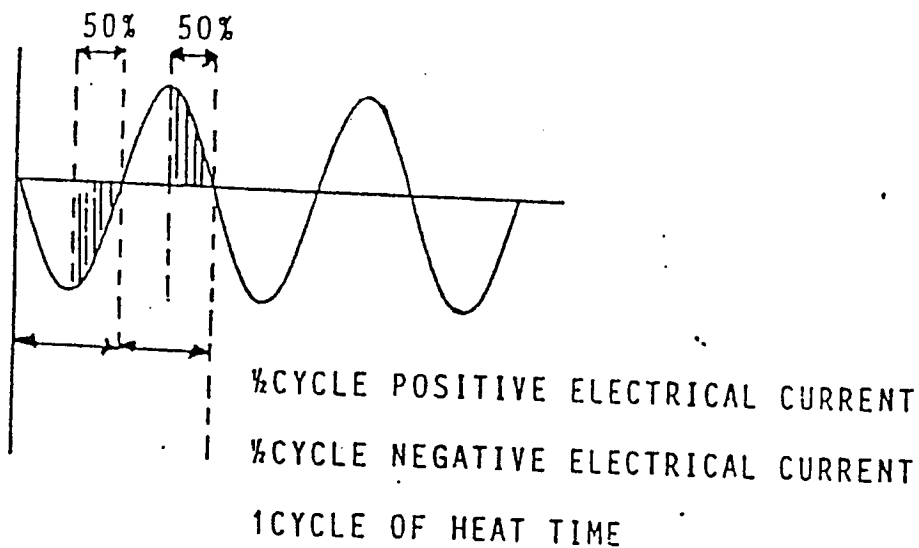

FIG. 2
- ◆ A program of 01 HEAT TIME at a heat magnitude of 50% will cause the welder controller to pass to the welding transformer one positive and one negative half cycle of electrical current, both with a magnitude of 50%. (See figure 2)